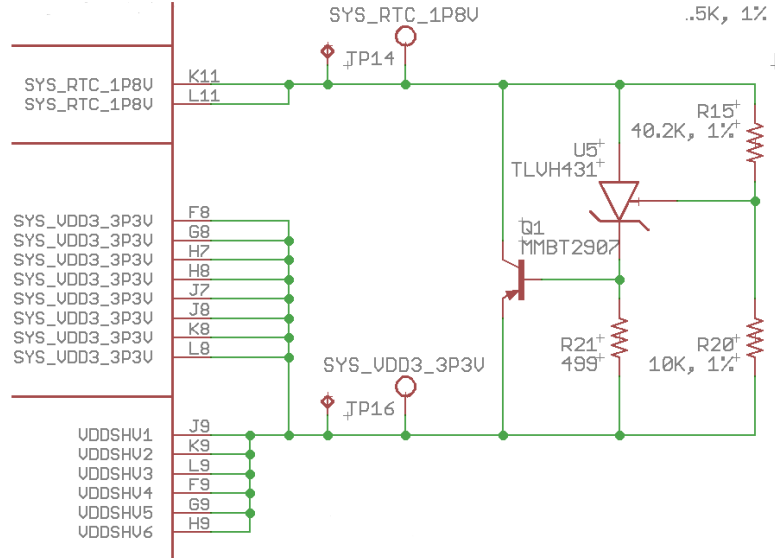

Figure 4: Clamping circuit between SYS_RTC_1P8V and SYS_VDD3_3P3V in OSD3358-SM-RED schematic
- Based on the application, a clamping circuit may be needed between the VDDS and the VDDSHVx signals (see documentation in the application note https://octavosystems.com/app_notes/osd335x-design-tutorial/bare-minimum-boot/clamping-circuit/). VDDS is internally connected to SYS_RTC_1P8V on the OSD335x/OSD335x-SM. The VDDSHVx signals are internally connected to VDDSHV_3P3V on the OSD335x but are external pins on the OSD335x-SM and could potentially be connected to SYS_VDD3_3P3V. If included, make sure that clamping circuit is between the correct voltage rails and has the correct components. Figure 4 shows the clamping circuit design on OSD3358-SM-RED.